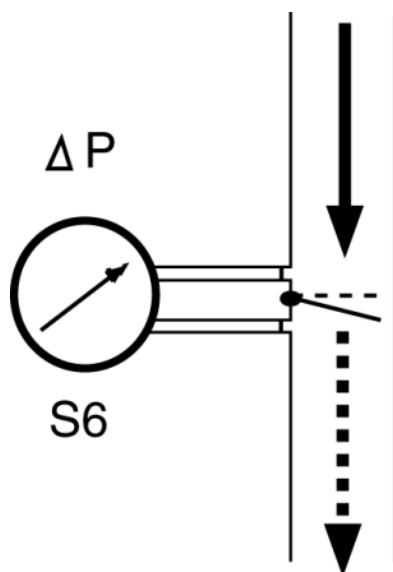

Fig. 2 Functional principle of the external flow sensor
- The pressure sensor S6 measures the differential pressure above the flow sensor S8 located close to the patient (Fig. 2). From it, the Control PCB calculates the flow.